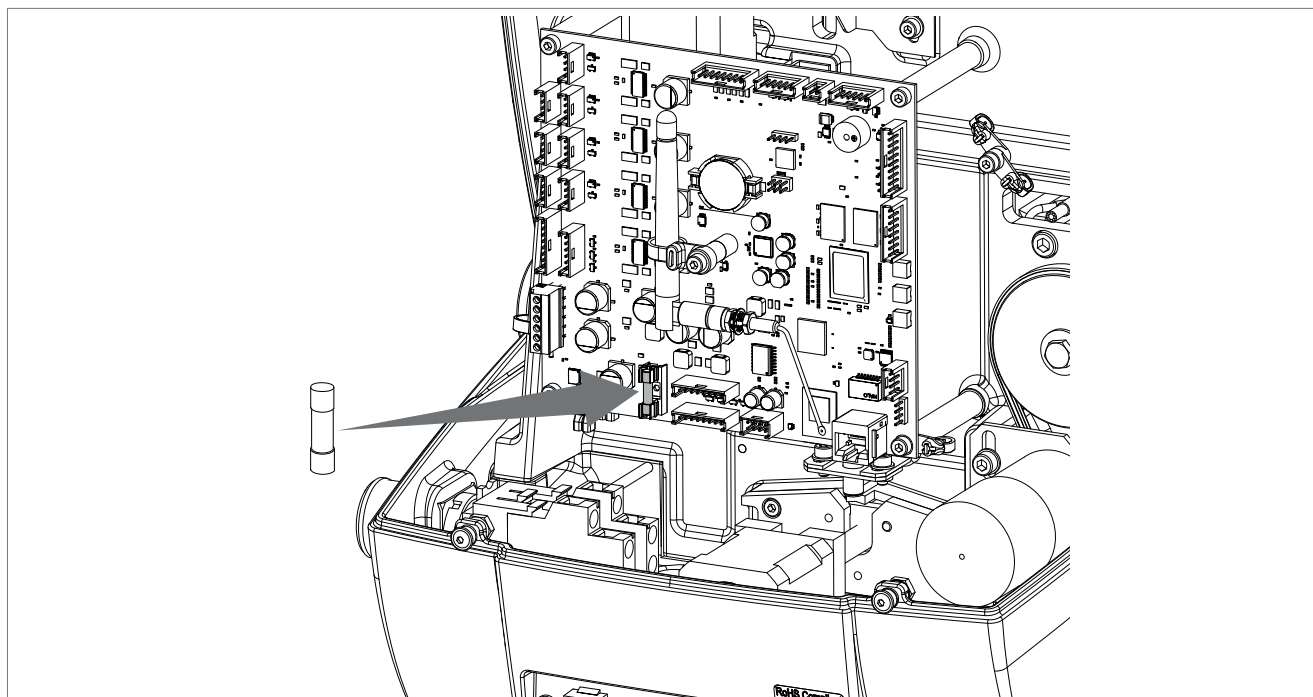

Fig. 80
- 3) Remove the fuse from its seat (Fig. 80) and replace if necessary.